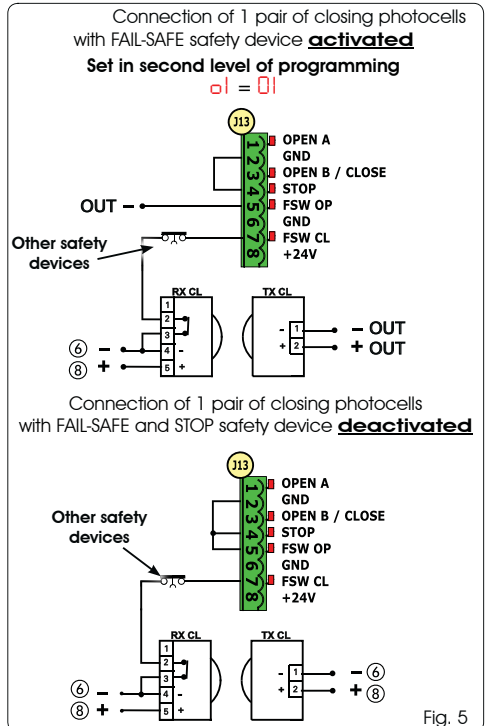

Fig. 5
If the FAIL-SAFE safety device is used, connect the power supply of the transmitters to OUT after setting it as appropriate (see 2nd level programming and Fig. 5).
If the FAIL-SAFE safety device is used, even the unused safety inputs must be connected via a shunt lead to the negative of OUT (see Fig. 5).
The control board is equipped with an integrated dual channel decoding system (DS, SLH, LC/RC) known as OMNIDEC. This system can use an additional receiving module (Fig. 5 ref. ①) and radiocontrols of the same frequency to store both total opening (OPEN A) and partial opening (OPEN B) of the automated system.